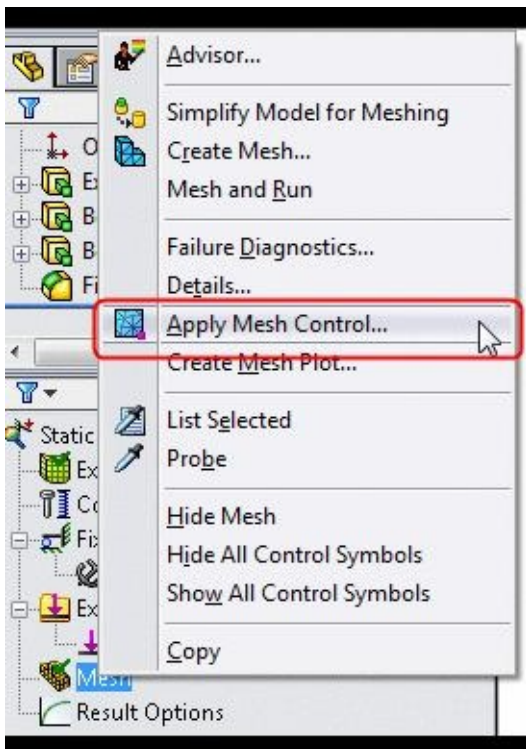

Figure-15. Meshing simplification
- To change the meshing for a particular area of the model, right-click on the **Mesh** node in the **Analysis Manager** displayed at the left of the modeling area. A shortcut menu will be displayed; refer to Figure-15.